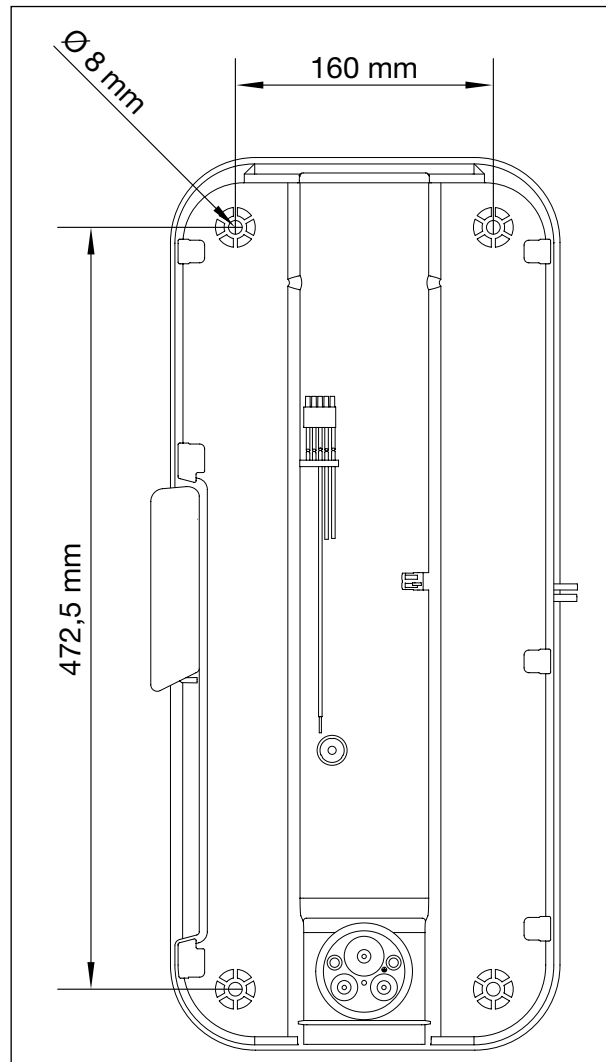

Fig. 8: Rear side of the charging station with hole spacings
- ❶ Draw on the holes on the installation wall horizontally and vertically, in accordance with Fig. 8.